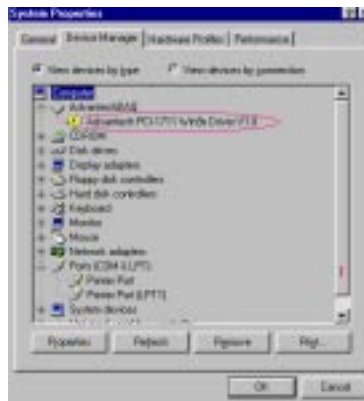

Fig. 2-4 The “exclamation mark” (!) on the device name indicating improper installation of the card
- ⚠ If your card is properly installed, you should see the *device name* of your card listed on the *Device Manager* tab. **If you do see your device name listed on it but marked with an exclamation sign “!” (Fig. 2-4), it means your card has not been correctly installed.** In this case, remove the card device from the *Device Manager* by selecting its device name and press the **Remove** button. Then go through the driver installation process again.